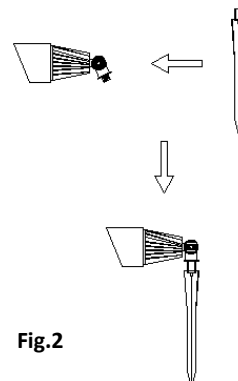

Fig.2
- Spike spot lights into soft ground. Adjust lamp aiming direction before installation (Fig.2)